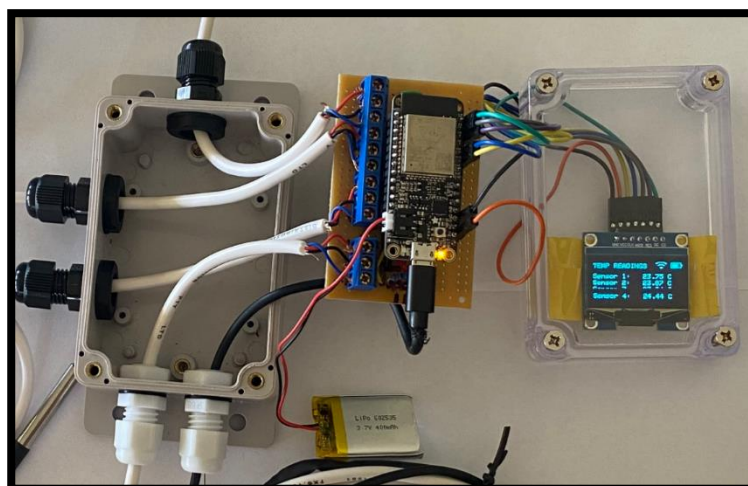

Figure 5: Maintenance Configuration
- ii) Lay out internals in a similar configuration to the one shown in Figure 5. Take care not to short the battery, unseat any connectors or dislodge any solder when unpacking wires.